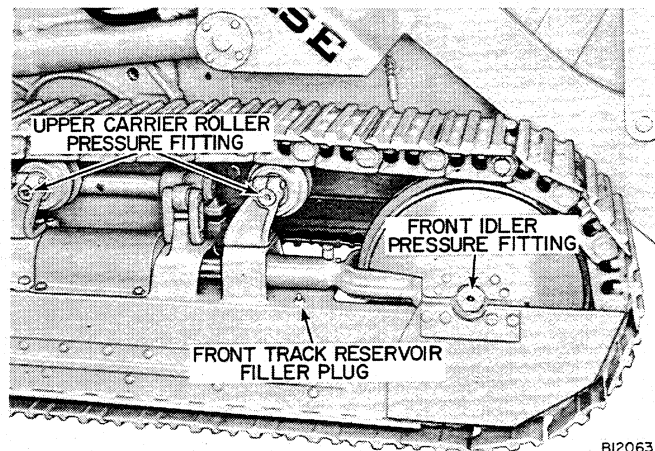

Figure 16 - Carrier Roller, Front Idler, and Track Roller Lubrication Points
1. Remove the two filler plugs from each reservoir, Figures 16 and 17.